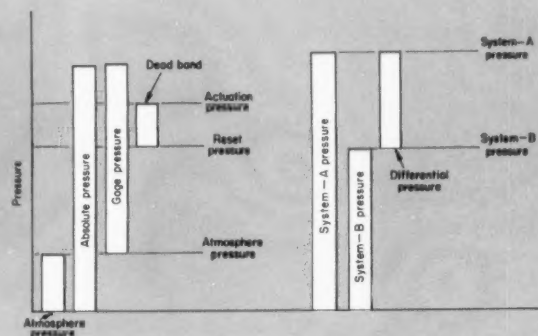
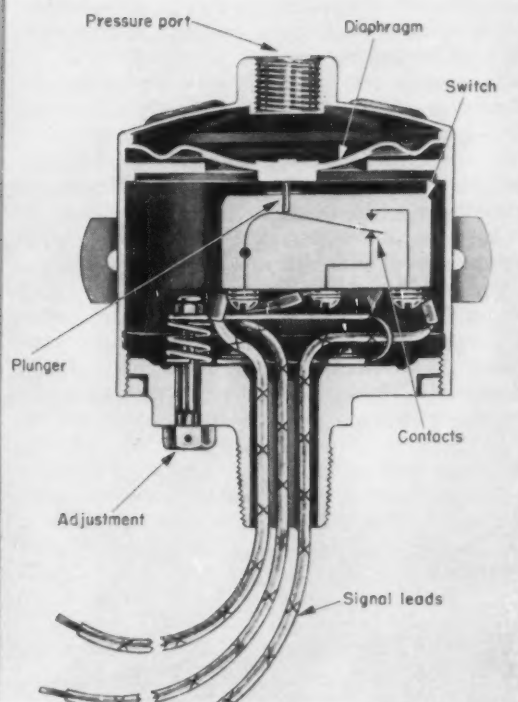

Fig. 2—Comparison of pressures measured by absolute, gage and differential-pressure switches.
Fig. 3—Pressure switch with diaphragm sensing element. Unit is for controlling gage pressure in a low-pressure system. No load spring is employed.
A typical flow detector is shown in Fig. 2. Electrodes may be of any metal which is inert to the electrolytic system used. In this particular example, platinum electrodes are used in an electrolytic system of iodine and potassium iodide in water. Cathodic reduction of iodine is made the controlling reaction by using a low concentration of iodine and a high concentration of the supporting electrolyte, potassium iodide. Current in the system is evidently controlled by the number of negative iodine ions which come into contact with the cathode. When there is no electrolyte flow through the cathode orifice, the current is controlled by diffusion; fluid flow of the electrolyte increases the number of available negative iodine ions at the cathode, and the current in the system increases. The reactions within the detector are reversible and there is no depletion of the unit during the chemical processes. Other electrolyte systems may be used: for example, ferricyanide-ferrocyanide, bromine-bromide, ceric-cerous, ferric-ferrous, etc. It is only necessary that they be reversible redox systems, which are reversible, chemical oxidation-reduction systems. A plot of the equilibrium current as a function of the incident pressure is shown in Fig. 3.
The cell in Fig. 2 was designed primarily for detecting and metering of acoustic energy or ac pressures. A more satisfactory design for dc flows and pressures is shown in Fig. 5. In this cell design, an additional cathode is placed in the right-hand compartment so that the bias voltage transfers the iodine from this side to the anode side, resulting in a final concentration of virtually zero in the cathode side.
Fig. 2—Circuit of solion flow detector, polarizing battery and ammeter shown in Fig. 1. Designed primarily for detecting and metering acoustic energy or ac pressures, the solion consumes $1/100$ to $1/1000$ the power required to operate a transistor.
Fig. 3—Curves of electric current vs. flow of electrolyte through the cathode orifice for solion acoustic detectors, such as shown in Figs. 1 and 2, with different orifice designs. The constant k depends on cathode geometry.
Pressure switches are designed in three basic types: (1) gage, (2) differential, and (3) absolute. Comparison of the pressures measured by these switches is given in Fig. 2.
Gage Type: By far the most common pressure switch is the gage type, Fig. 3. In this switch, one side of the pressure-sensing element is ported to the system pressure; the other side of the element is vented to the surrounding atmosphere. The element responds, therefore, to the difference between the pressure in the system connected to the pressure-sensing port and the ambient atmospheric pressure.